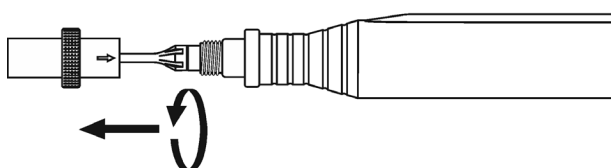

Fig. 4
- Remove the ultrasonic tip according to fig. 4: